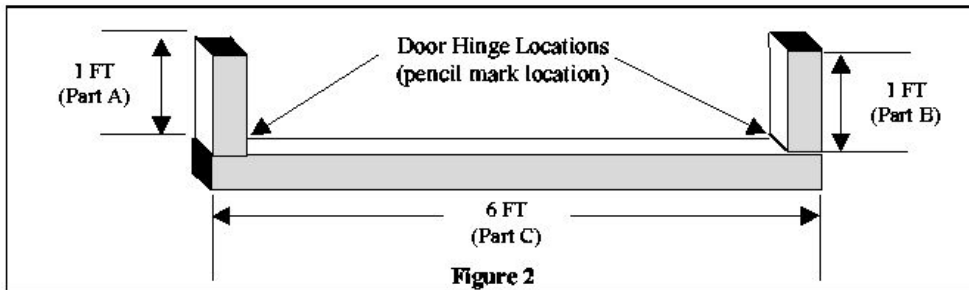

Figure 2
- 2) Place the short lengths (A & B) just cut on the remaining 6 ft piece (C) of 2x4 (See Figure 2).
- 3) Make a pencil mark where the inside edge of the vertical legs (A & B) meet with the top side of the horizontal piece (C, 6 ft piece 2x4) (See Figure 2).